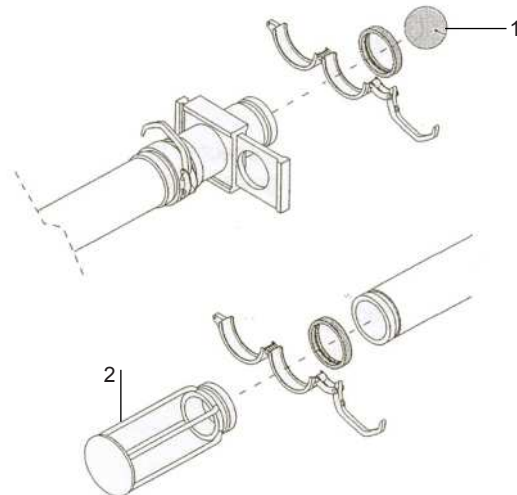
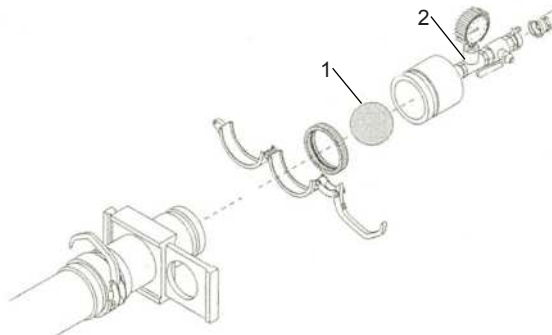

Fig. 23
Fig. 25
Wet a sponge and fit it into the pipe (Fig. 23 Ref. 1). Reconnect the pipe to the machine. Connect the sponge recovery container (Fig. 23 Ref. 2) to the outlet of the hose using the Victaulic fitting with gasket.
Connect the sponge recovery container (Fig. 23 Ref. 2) to the outlet of the hose using the Victaulic fitting. Insert the sponge at the hose inlet (wet and of a suitable diameter) (Fig. 25 Ref. 1) and connect the provided cleaning device with ball valve (Fig. 25 Ref. 2), making sure it is correctly locked.
⚠ The sponge may be expelled violently from the end of the hose: lay out the terminal hose correctly; if the hose is blocked, the sponge will not be expelled. Switch off the air supply by pulling the lever (Fig. 25 Ref. 2).
Drain out the water tank, pull the evacuation lever (Fig. 25 Ref. 2) to the vertical position.
- Start the machine and run the engine at low speed and adjust the pump flow rate to its minimum using the switch (Fig. 25 Ref. 2) on the electrical cabinet.
- Turn the inversion switch (Fig. 25 Ref. 2)